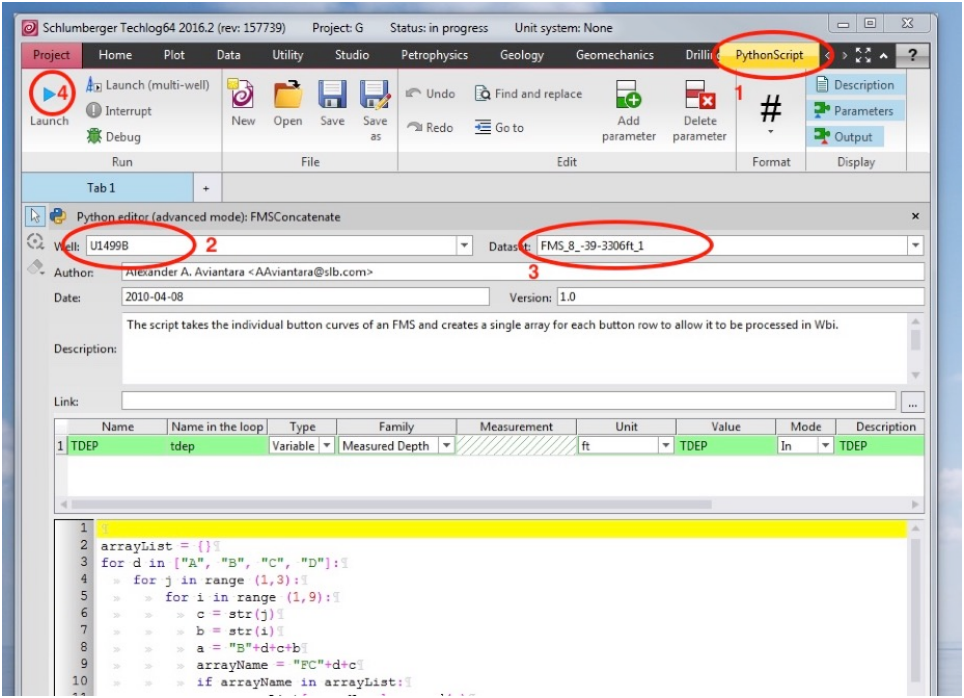

Figure 3: Pythonscript window for creating arrays from variables.
- a. Click on the "Pythonscript" yellow menu on the top right to get the right commands displayed (#1 in Fig. 3)
- b. Select the well from the dropdown list (#2 in Fig. 3)
- c. Select the dataset that you are working on (#3 in Fig. 3)
- d. Launch the script (#4 in Fig. 3)